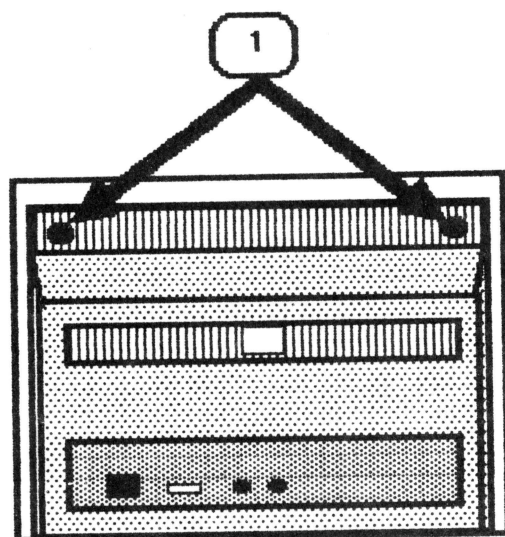

FIGURE 2
5. Carefully set the monitor back on its feet with the back facing you, as shown in Figure 2.
6. Remove the two screws shown in Figure 2, #1.
3. Tighten the two screws shown in Figure 2, #1.